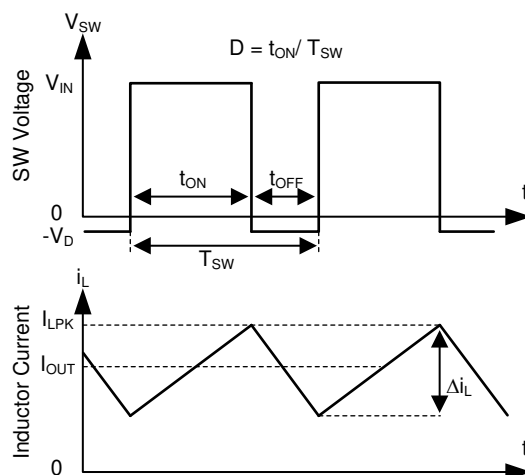

図 7-1. SW Node and Inductor Current Waveforms in Continuous Conduction Mode (CCM)
The following operating description of the LMR23615 refers to セクション 7.2 and to the waveforms in 図 7-1. The LMR23615 device is a step-down, synchronous buck regulator with integrated high-side (HS) and low-side (LS) switches (synchronous rectifier). The LMR23615 supplies a regulated output voltage by turning on the HS and LS NMOS switches with controlled duty cycle. During high-side switch ON-time, the SW pin voltage swings up to approximately V_{IN} , and the inductor current I_L increase with linear slope $(V_{IN} - V_{OUT}) / L$. When the HS switch is turned off by the control logic, the LS switch is turned on after an anti-shoot-through dead time. Inductor current discharges through the LS switch with a slope of $-V_{OUT} / L$. The control parameter of a buck converter is defined as duty cycle $D = t_{ON} / T_{SW}$, where t_{ON} is the high-side switch ON time and T_{SW} is the switching period. The regulator control loop maintains a constant output voltage by adjusting the duty cycle D . In an ideal buck converter, where losses are ignored, D is proportional to the output voltage and inversely proportional to the input voltage: $D = V_{OUT} / V_{IN}$.